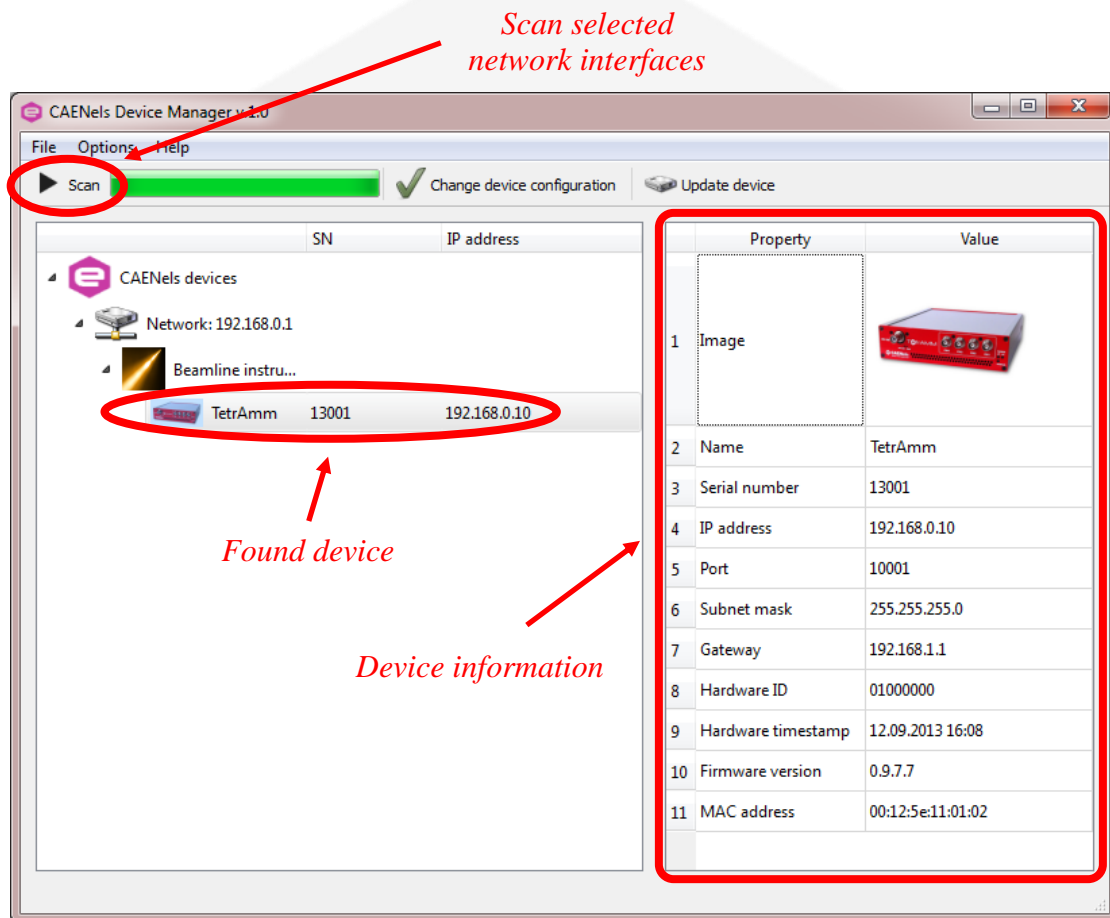

Figure 5: Main interface
- perform a scan to discover the connected TetrAMM devices by clicking the “Scan” button as indicated in **Figure 5**. If there are multiple available networks it is possible to select the network/networks to be scanned in the “Selected network interfaces” window available under the “Options” menu. All the information about the selected devices is shown in the right side of the main window.